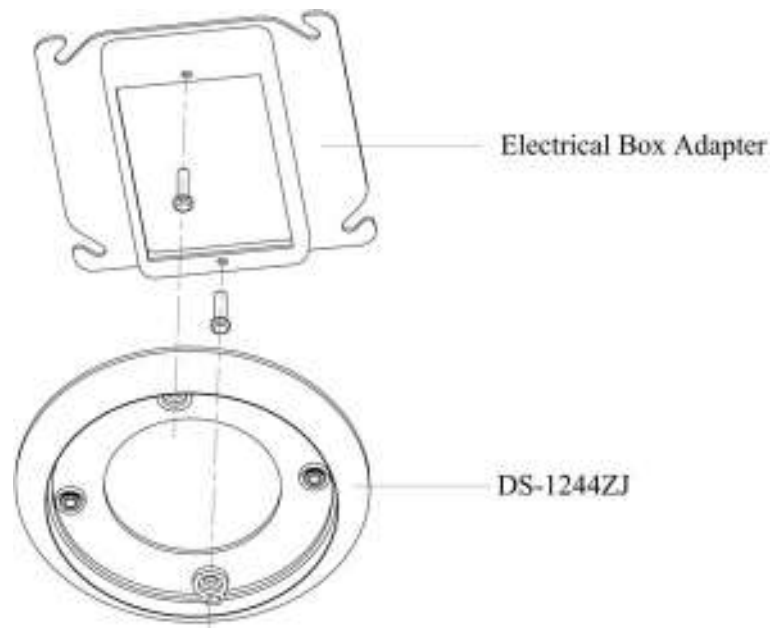

Figure 2.2.1
1. Attach DS-1244ZJ to Electrical Box Adapter as shown in Figure 2.2.1